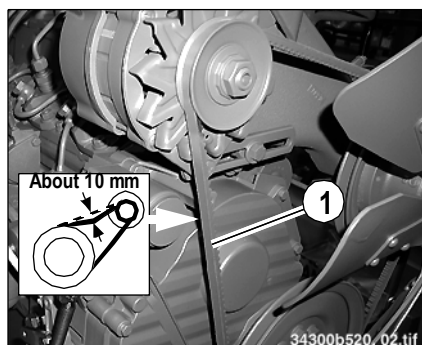

Fig. 77: Checking V-belt tension
- 4 Use a suitable tool to push the alternator in the direction of arrow **A** until the correct V-belt tension is obtained (fig. 77)
- 6 Check V-belt tension (fig. 77) again